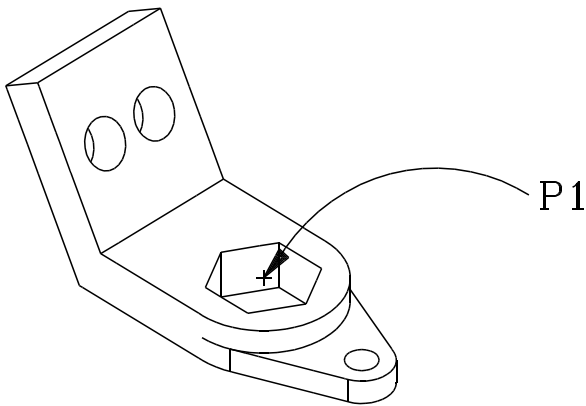

**Figure 19**
74. Press F10 to zoom back in on the isometric view, click on SELECT: SINGLE-ELEMENT, then click on lines L1 and L2. (See Figure 19.)